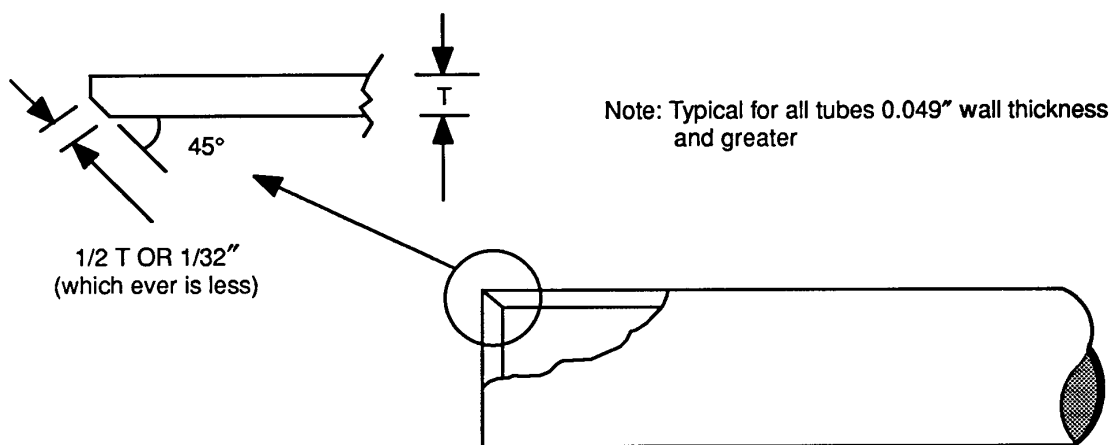

Figure 1 - Detail of Chamfer on Tube End
- Step 5. If the tube has a wall thickness of 0.049" or greater, chamfer the inside edge of the tube as shown in Figure 1.